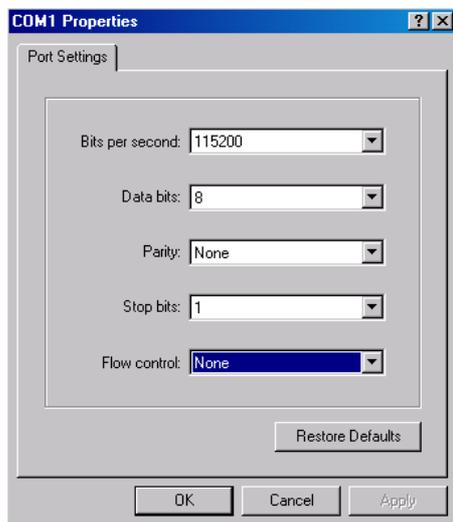

Figure 6-7 Setting port property
3. Set the communication parameters shown in Figure 6-7 and click the OK button.